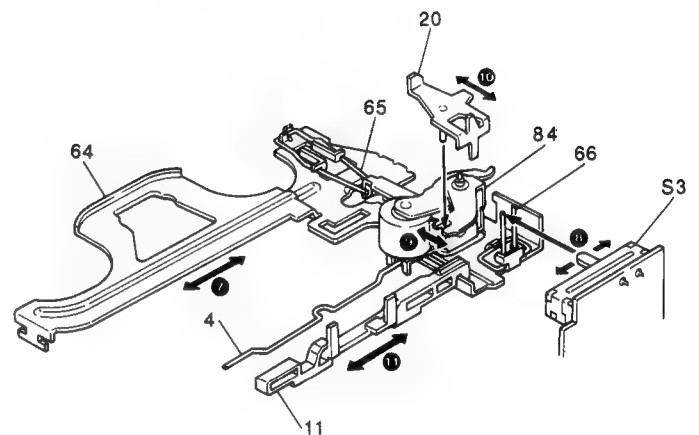

Fig. 8
4. The main plate (64) slides in direction of arrow ( ❼ ) in Fig.8 causing the following part movements;
- a) Head switch (10) movement is changed per arrow ( ❽ ).
- b) Force transferred from pinch roller-spring (4) changes the relation of pinch roller and capstan to each other, per arrow ( ❾ ).
- c) Seesaw plate (20) is moved by the main plate and seesaw plate spring (65), and moves see-saw working plate (84). All FF/REW operation is performed by this seesaw plate movement. See arrow ( ❿ ).